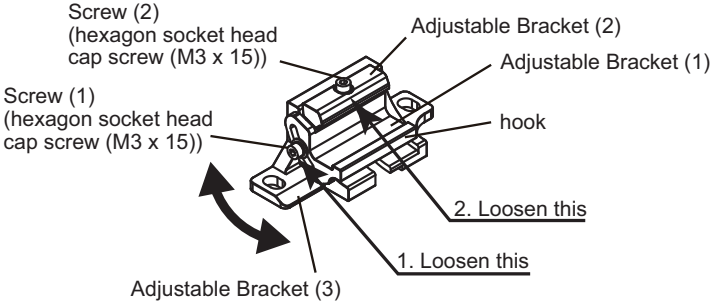

Fig. 1
- 1. Loosen the Screw (1) (hexagon socket head cap screw (M3 x 15)) and change the angle of the Adjustable Bracket (1) according to its mounting direction. (Fig. 1)
- 2. Loosen the Screw (2) (hexagon socket head cap screw (M3 x 15)). (Fig. 1)